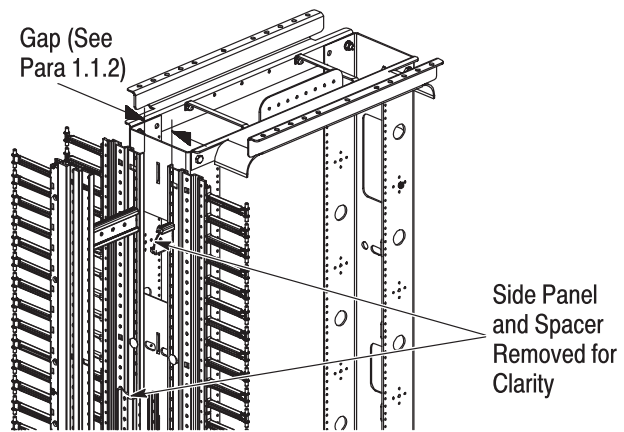

Figure 2
2. Double-sided units are installed one at a time. For racks deeper than 76.2 mm [3.00 in.], double-sided cable managers can be installed with space between the managers to provide additional space for routing cables. When cable managers are installed back-to-back without any gap, optional 1/4-in. bolts are provided which allow the cable managers to be bolted together. Use the square or rectangular hole in the cable manager and either the round or oval hole in the rack, whichever provides the desired spacing between the back-to-back cable managers. See Figure 2.